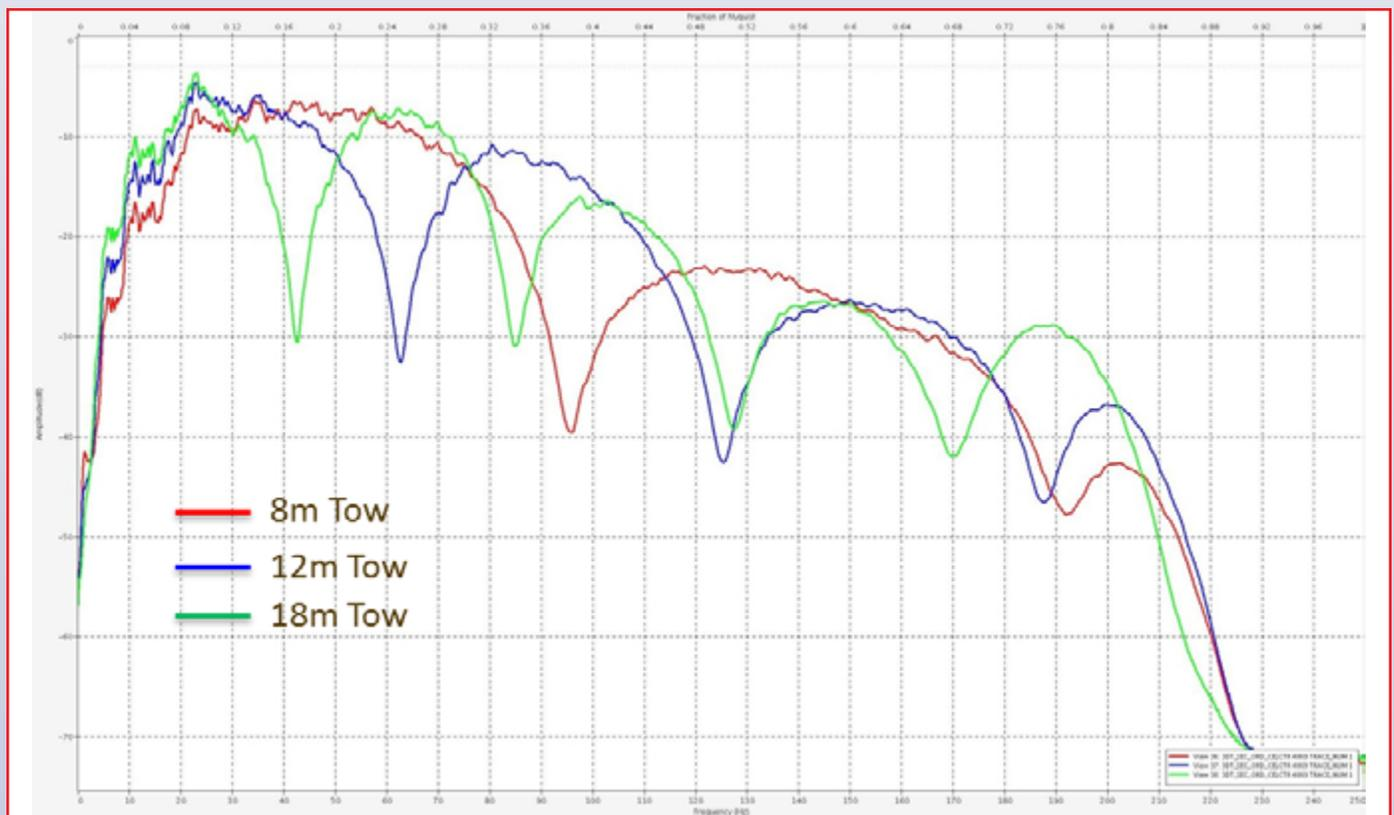

Figure 4: Spectral analysis of stacked marine seismic data recorded with 8m (red), 12m (blue) and 18m (green) streamer deployment.
- Deployment of streamers at two different depths. This yields the potential to distinguish the up-going energy from the down-going energy at each point along the streamer. **Figure 4** shows the ghost notches present on streamers with different deployment depths. Note how the notches in the spectrum vary, and can potentially be “filled in” by use of streamers at two different